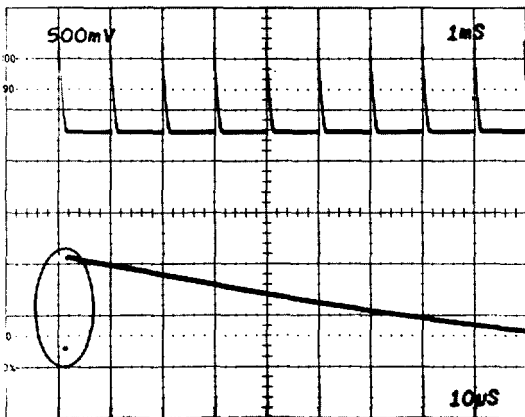

Fig. 5-13. Correct DTM Scale and Delay Start adjustment (circle).
- c. Position the first time-mark to the second vertical graticule line, using the POSITION control. See Fig. 5-13 for reference.
- d. Adjust-DTM Scale, R495, to start rising portion of tenth time-mark so Delayed (bottom) sweep display coincides with second vertical graticule line. See Fig. 5-13 for reference.
- f. Adjust-Delay Start, R425, to start rising portion of second time-mark so Delayed (bottom) sweep display coincides with second vertical graticule line. See Fig. 5-13 for reference.